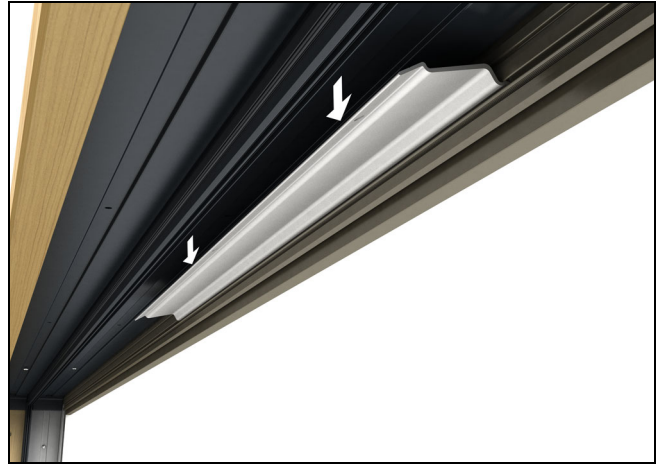

Figure 132
6. Remove the structural brackets from head jamb by removing the tape and rotating outwards. See figure 132.